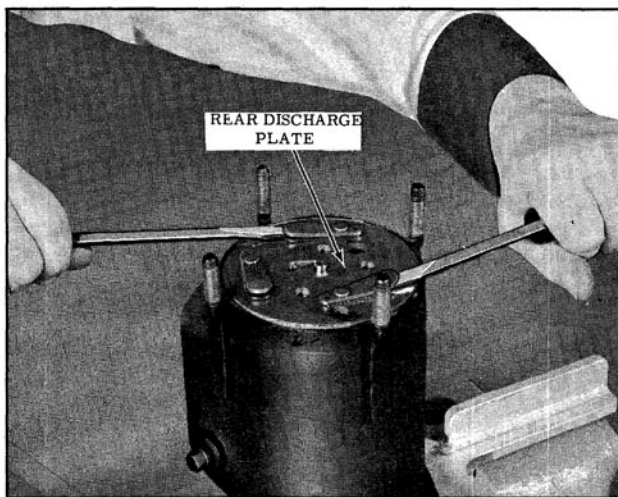

Fig. 14-108 Removing Rear Discharge Plate
7. Remove the rear discharge valve plate and reed valve assembly. Separate the discharge valve plate and reed valve and inspect. (Fig. 14-108)